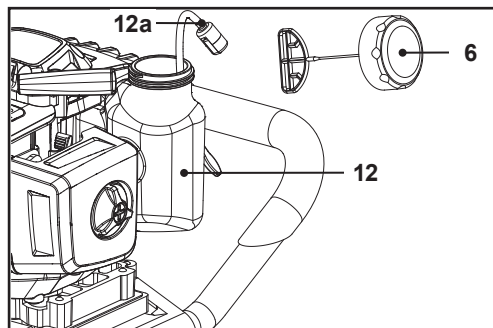

Fig. 16
The fuel tank (12) of this product is fitted with a fuel filter (12a), which is attached on the end of the fuel pipe. Use a piece of wire with a hook on one end to carefully extract the fuel filter (12a) from the fuel tank (12) (Fig. 16). Ask an authorised service centre or a similarly qualified person to check and replace the filter at regular intervals if required.